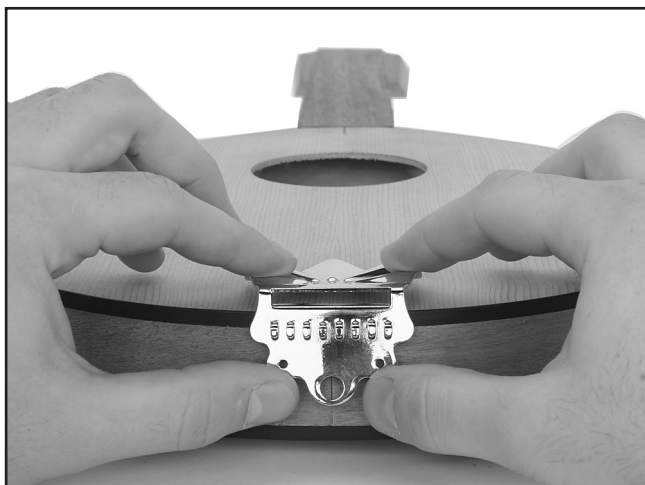

Figure 8. Marking tailpiece mounting holes.
7. Use a screw or drill a hole with a $\frac{1}{16}$ " bit to mark the centers of the screw holes (**Figure 8**) and then set the tailpiece to the side.